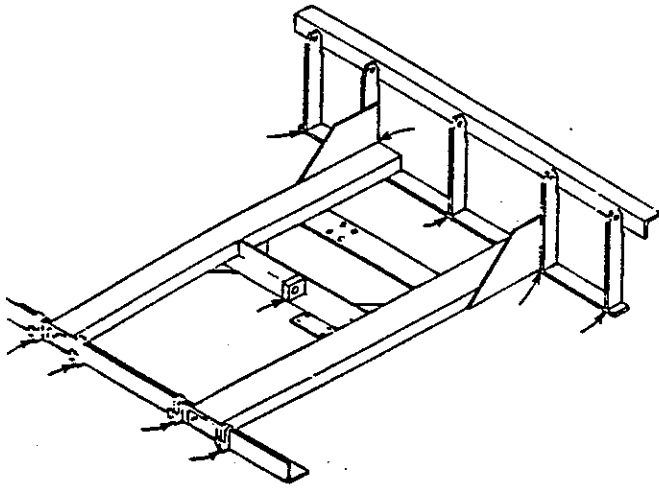

Figure 2
2. There are ten (10) load bearing points related to the main frame. Five (5) are at the rear of frame under the five (5) support posts, four (4) are at the front of frame under the cross-traffic supports, and one (1) is under the cylinder mounting angle at the center of frame. (See Figure 2)